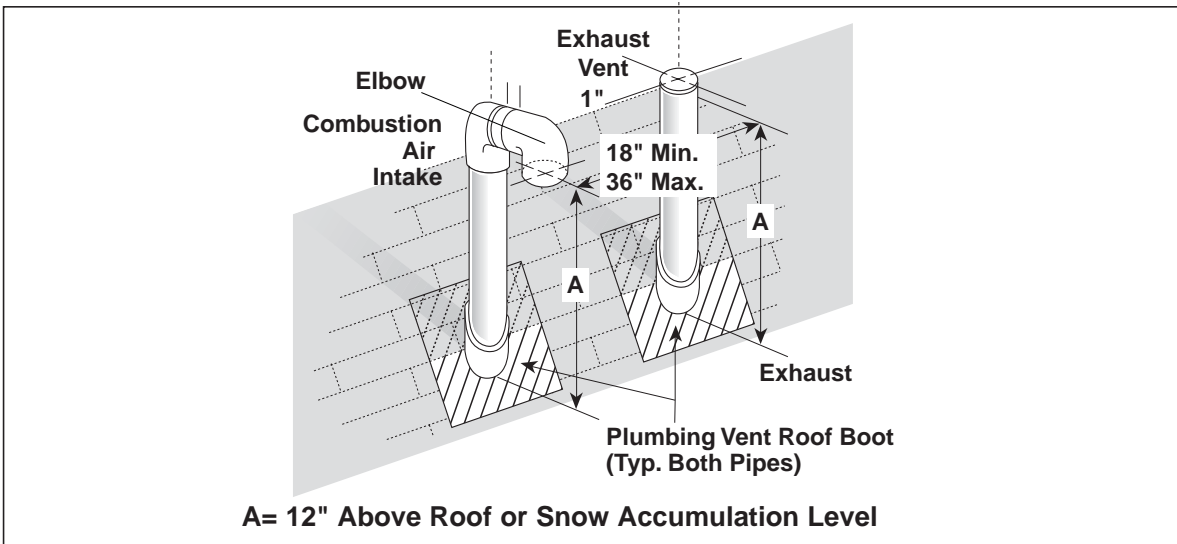

Figure 20. Vertical Vent Termination
Figure 20 shows the proper installation and clearances for vertical vent termination. The roof penetration must be properly flashed and waterproofed with a plumbing roof boot or equivalent flashing. Termination spacing requirements from the roof and from each other must be per Figure 20.
- c. The termination clearances shown in Figure 20 are maintained.